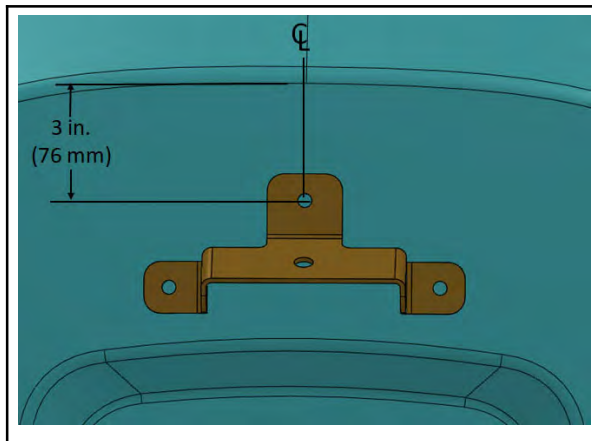

FIG. 25
- Position the front cover spotlight mounting bracket (4) onto the front cover and mark the locations for the three front cover spotlight mounting bracket mounting holes onto the front cover. (Fig. 25)
- Drill a 0.375 in. (9.5 mm) hole completely through each hole marked on the front shroud in the previous step. Drill completely through both sides of the shroud. **Do Not** drill into any parts/components located behind the front shroud. (Fig. 25)